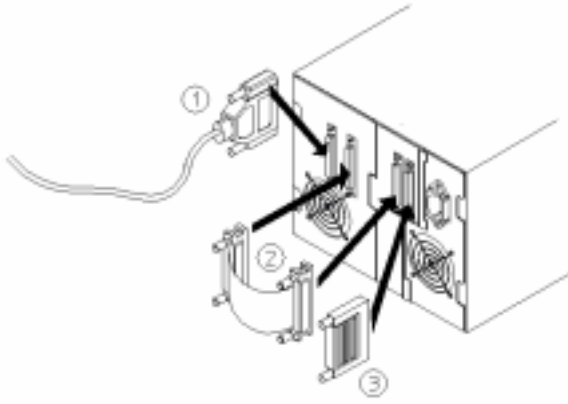

FIGURE 1-1 Rear Panel Features
- Become familiar with the back of the Autoloader, as shown in FIGURE 1-1 on page 1-4.
TABLE 1-3 identifies the numbered components in FIGURE 1-1.